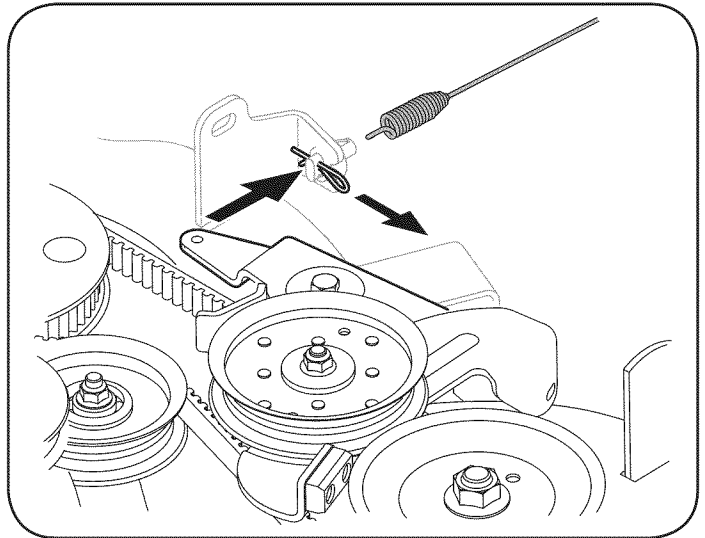

Figure 25
9. Carefully remove the front deck supports from the deck lift arms, Figure 25.
13. Pull the click pin out and unhook the drive spring cable from the idler arm assembly. See Figure 25.